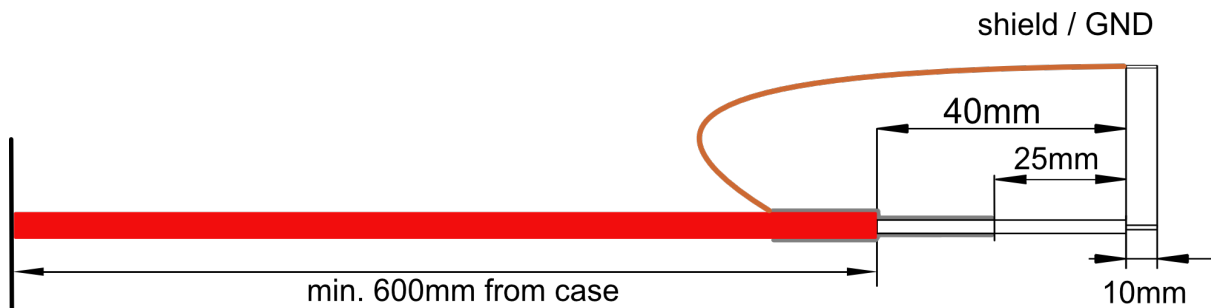

Figure 9: HV cable connection
| Notes: 1) – Specifications for stability, ripple and noise are guaranteed in the range $2\% \cdot V_{nom} < V_{out} \leq V_{nom}$ 2) – the HV cable has a length of 600mm as standard, see Figure 9: HV cable connection | | |
1) – the HV cable has a length of 600mm as standard, see Figure 9: HV cable connection